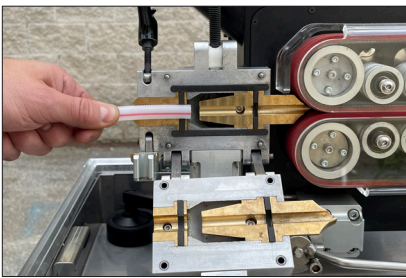

Fig. 1
- Open the clamps of the duct adapter and the cable adapter, and insert the tube into the duct adapter (Fig. 1).